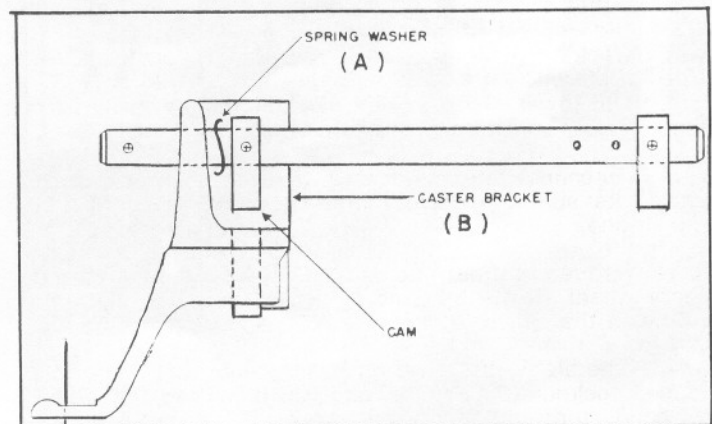

Fig. 6.
4. Assemble spring washer (A) and caster mount bracket (B) on each shaft, as shown in Fig. 6.